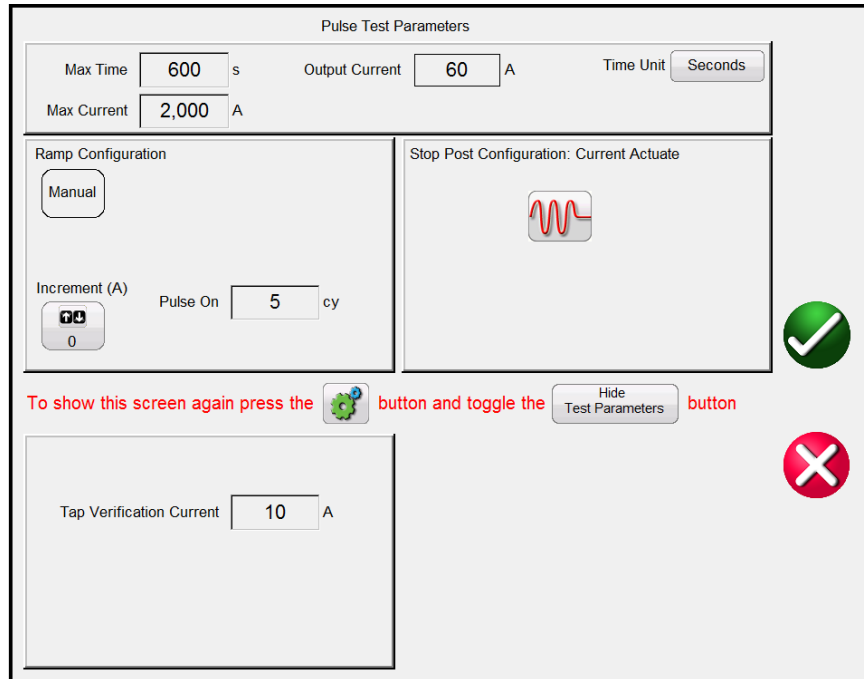

Figure 29 – Pulse Test Parameters
- 6) In the Pulse Test Parameters screen (Figure 29):
- Set the desired Ramp **Increment (A)** in Amps/Pulse by pressing the Increment button. Then set the desired **Pulse On** duration in Cycles